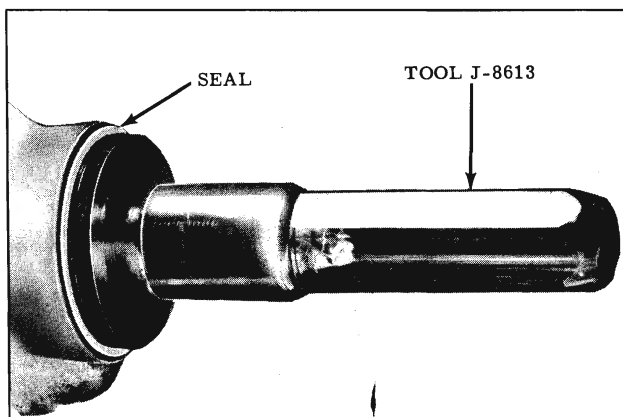

Fig. 6-106 Installing Pinion Seal
2. Drive seal into housing, using Tool J-8613. (Fig. 6-106)